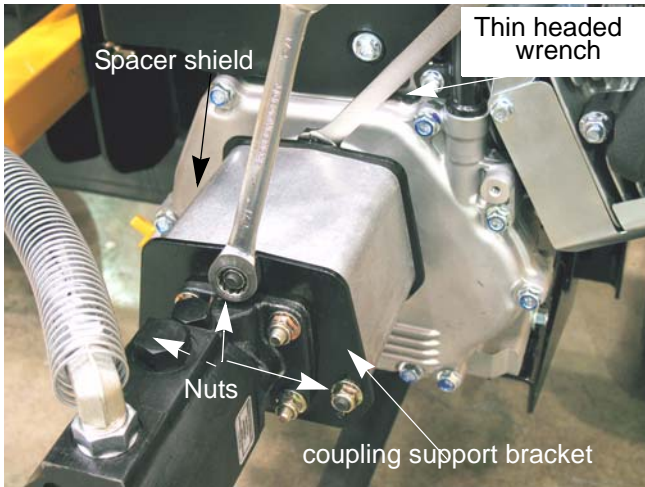

Figure 2.1
1. Remove the three coupling support bracket nuts using a pair of 1/2" wrenches. See Figure 2.1.